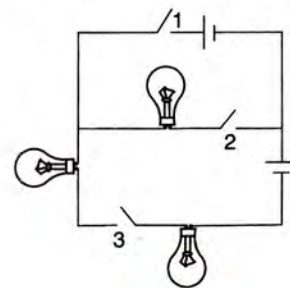

Fig. 9.28
30. The diagram in Fig. 9.28 shows three lamps and three switches 1, 2 and 3 connected with two cells.